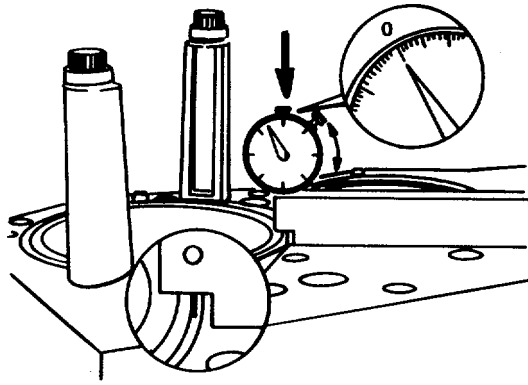

FIGURE 4-91. Liner Protrusion Measurement.
- (15) Position gauge block so that indicator needle contacts liner flange on the outside of the sealing bead (FIG. 4-91).
- (16) Gently push indicator needle down until it touches the liner. Turn gauge until the "O" is aligned with the indicator needle of the dial. Repeat step to ensure dial reads "O" when needle touches the liner.
- (17) Raise indicator needle. Move gauge block until indicator needle is over the cylinder block. Gently push indicator needle until it touches the block. Verify dial reads between 0.006 and 0.008 inch (0.15 and 0.20 mm).